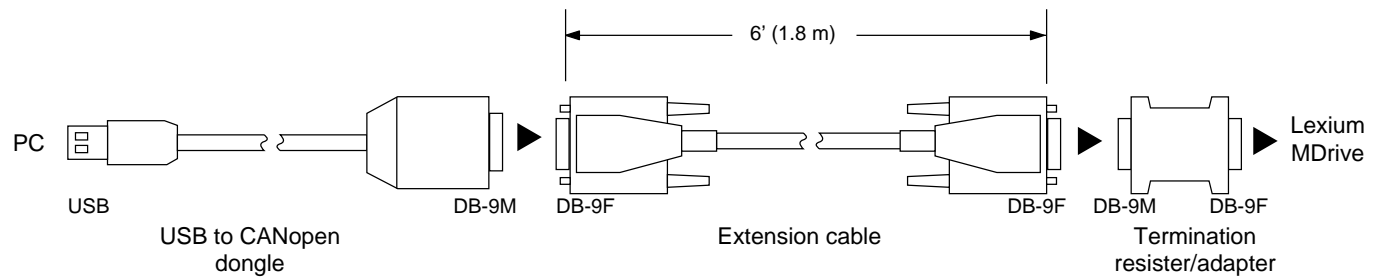

Figure 7.2: MD-CC501-000 dimensions and connection.
- ▶ You may now connect the adapter to the Lexium MDrive using the 6' interface cable and termination block as shown in Figure 7.2.